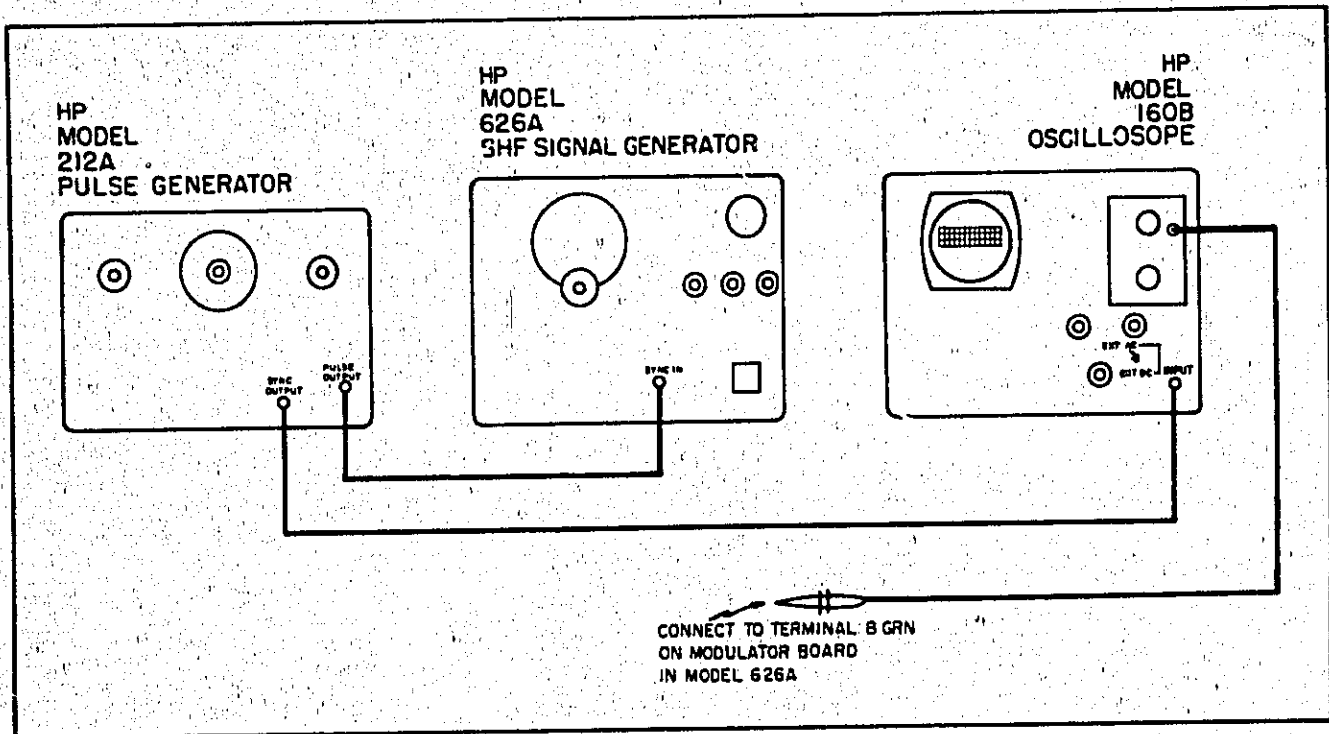

Figure 5-8. Test Setup for Schmitt Trigger Level Adjustment
a. Connect test setup as shown in Figure 5-8. Oscilloscope vertical input is to be connected to terminal B GRN on modulator board.